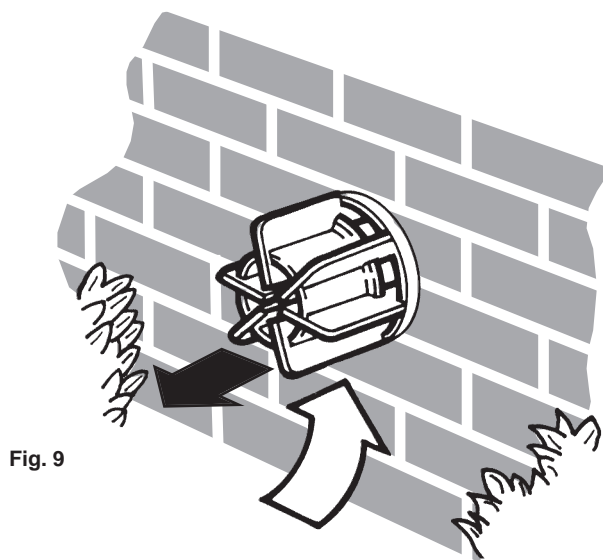

Fig. 9
1. The appliance may be fitted to any suitable wall with the flue passing through an outside wall and discharging to atmosphere in a position permitting satisfactory removal of combustion products and providing an adequate air supply (Fig. 9). The appliance should be fitted within the building unless otherwise protected by a suitable enclosure ie. garage or outhouse. (The appliance may be fitted inside a cupboard. Cooling ventilation and insulation of the cupboard are not required, see section 4.5.)